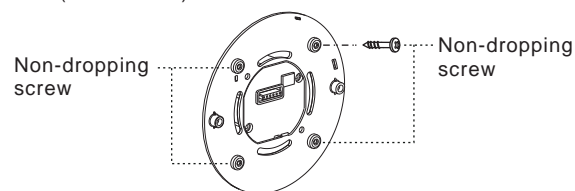

FIG.18
3.3.4.4 Insert four non-dropping screws to the corresponding screw holes on sensor's fixing plate. Afterwards, those four screws will not drop off to provide convenient subsequent installations (See FIG.18).